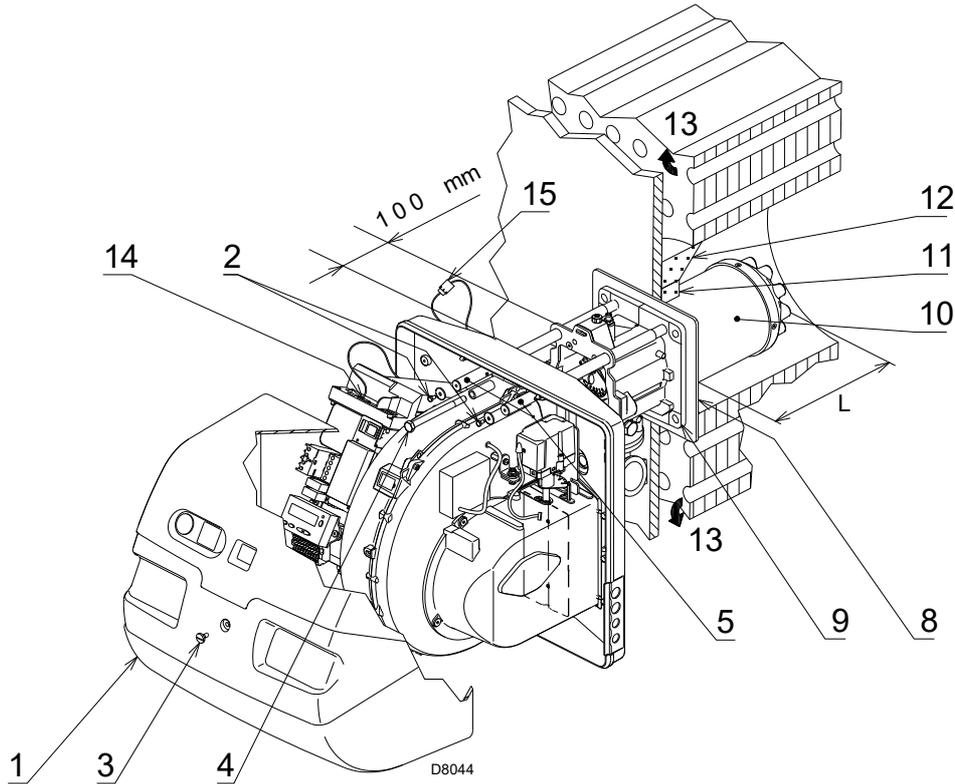

Fig. 17
For boilers with front flue passes 13)(Fig. 17), a protection in refractory material 11) must be inserted between the boiler refractory 12) and the blast tube 10).
For boilers with a water-cooled frontal, a refractory cover is not necessary 11)-12)(Fig. 17), unless expressly requested by the boiler manufacturer.
Separate the combustion head from the rest of the burner, as in Fig. 17; proceed as follows:
- reassemble the burner on the guides 3) at about 100 mm from the pipe coupling 4) - burner in the position shown in Fig. 17;
- connect the plug of the servomotor 14)(Fig. 17 at page 24) and tighten the grommet 15);